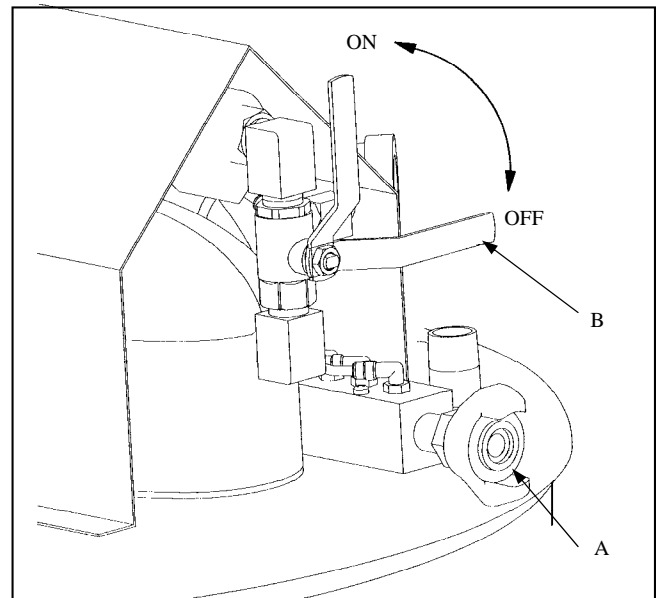

Figure 4-3. Supply Air Connector and Tank Vacuum Valve
4.5.4 Supply Air Connection. The supply air connector is located at the front of the tank, near the vacuum system assembly. See Figure 4-3. The air supply should be within the parameters specified in Chapter 1, Tables 1-1 through 1-3
4.5.5 Tank Vacuum Operation. The tank Vacuum Valve is used to turn the Tank Vacuum Group on and off. See Figure 4-3.